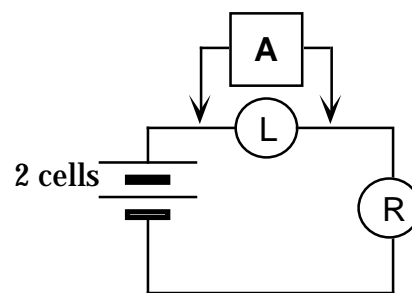

Figure 6.10b
3. Now connect the circuit shown in Figure 6.10b. Compare the meter reading change to what you observed in the previous investigation.